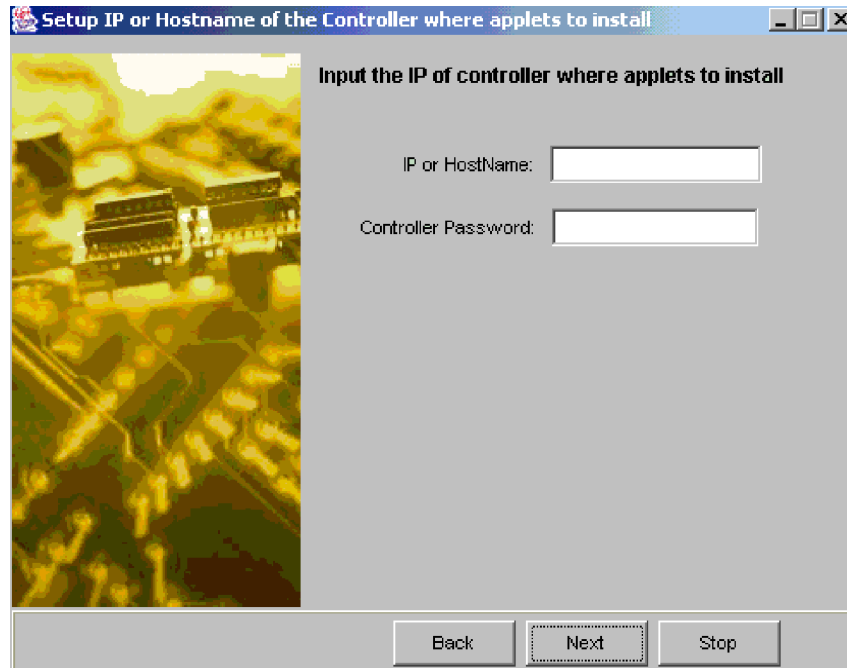

Figure 2-10: Input IP and Controller Password
Step 7. As shown in *Figure 2-10* above, enter the IP address or the host name of the controller/subsystem and the controller password in the respective fields. The default for controller/subsystem IP or password is blank. Preset IP and password should have been configured other configuration utilities before proceeding with StorageWatch installation.
Step 10. If you wish to immediately access the StorageWatch manager, then open a web browser and type in the IP address that you used in *Figure 2-10*.
where **`www.xxx.yyy.zzz`** is the IP address entered in *Figure 2-10*.